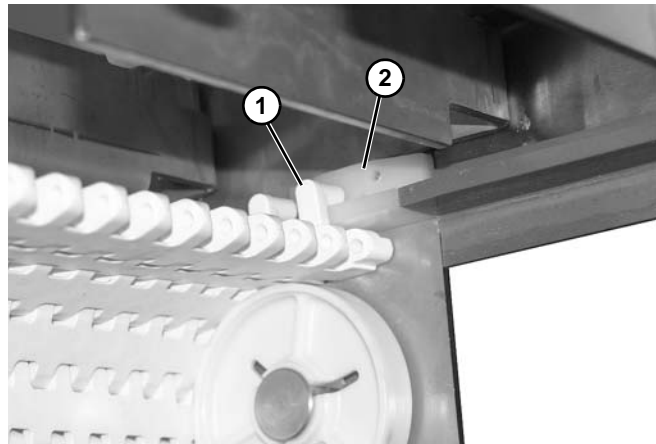

Figure 105
Be certain that belt tab (Figure 105, item 1) rides onto belt guide (Figure 105, item 2).